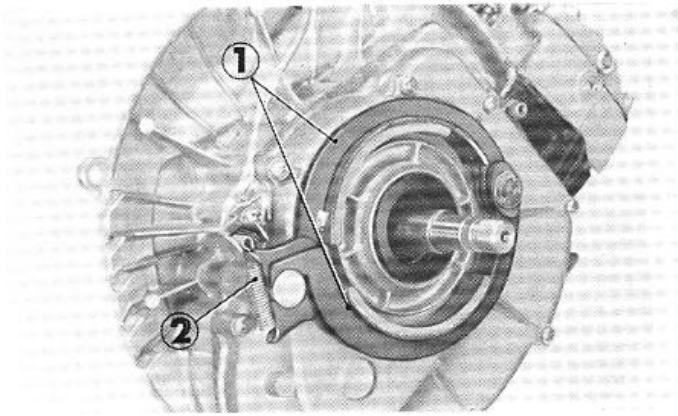

Fig. 2-35 ① Rear brake shoe
2. Remove rear brake shoes (Fig. 2-35)